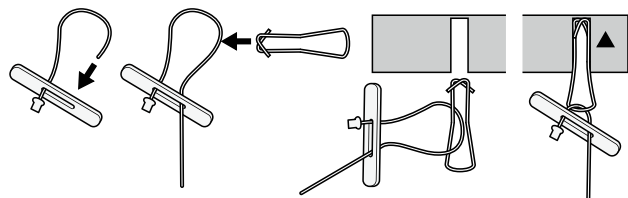

FIGURE 11. Cable suspension from spring clips (by others).
- 2) When cable hanging hardware cannot be above the structure, spring clip systems (by others) may be used. (See **FIGURE 11**).